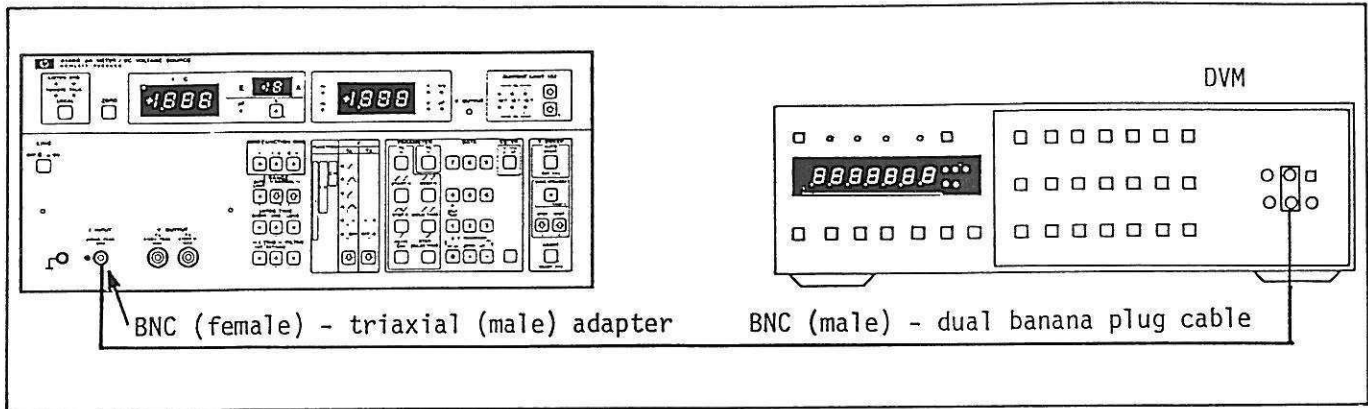

Figure 5-2. pA Meter Amplifier Offset Adjustment Setup.
1. Connect the DVM input to the 4140B I INPUT connector with the BNC (female) - triaxial (male) adapter and BNC (male) - dual banana plug cable. See Figure 5-2.